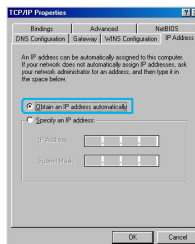

Figure 3
4. Select the **[IP Address]** tab and click the **Obtain IP address automatically**. (Figure 3)